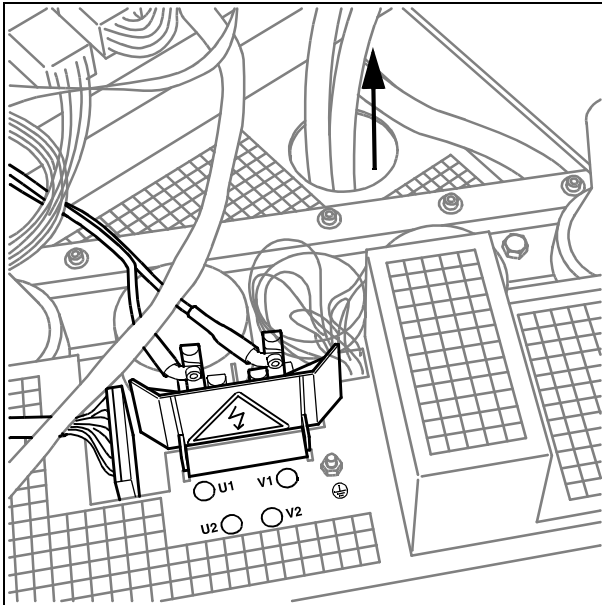

Fig. 48:
- Run the high-voltage cable up to the high-voltage transformer (Fig. 48 / p. 44).